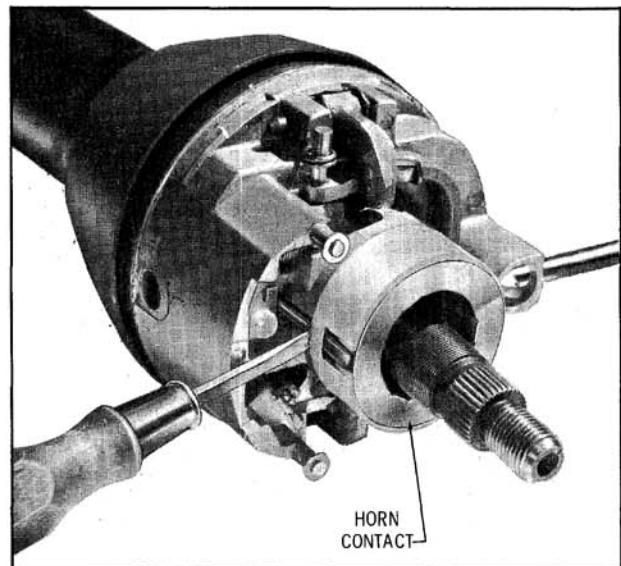

Fig. 8-96 Removing Horn Contact
5. Remove horn contact. (Fig. 8-96)